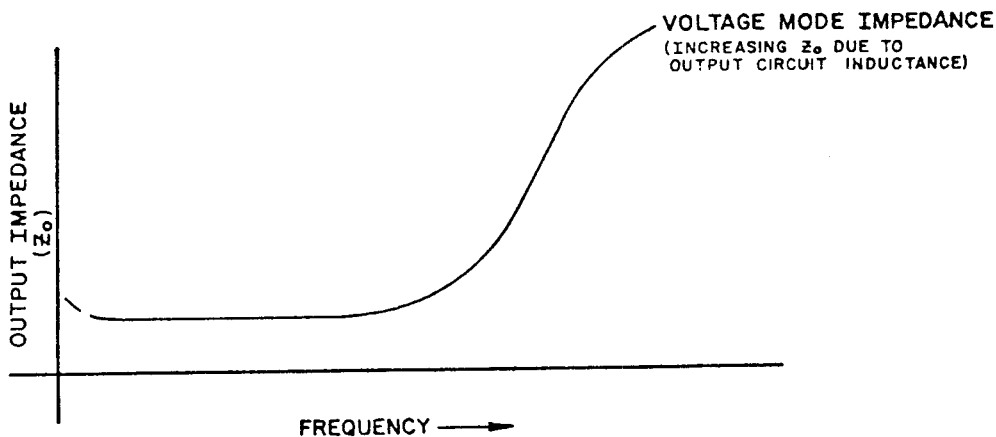

FIG. 3-1 TYPICAL OUTPUT IMPEDANCE VS. FREQUENCY PLOT FOR STABILIZED D-C VOLTAGE SOURCES.
- 3-13 The stabilized d-c power supply is definitely not an ideal voltage or current source with zero output impedance (VOLTAGE MODE) at all frequencies. All voltage sources have some amount of impedance which increases with frequency. (Refer to FIG. 3-1). A more realistic model for a voltage stabilized power supply must, for example, include a series resistance, representing the small d-c and low frequency source impedance, in series with an inductance, representing the source impedance at higher frequencies.